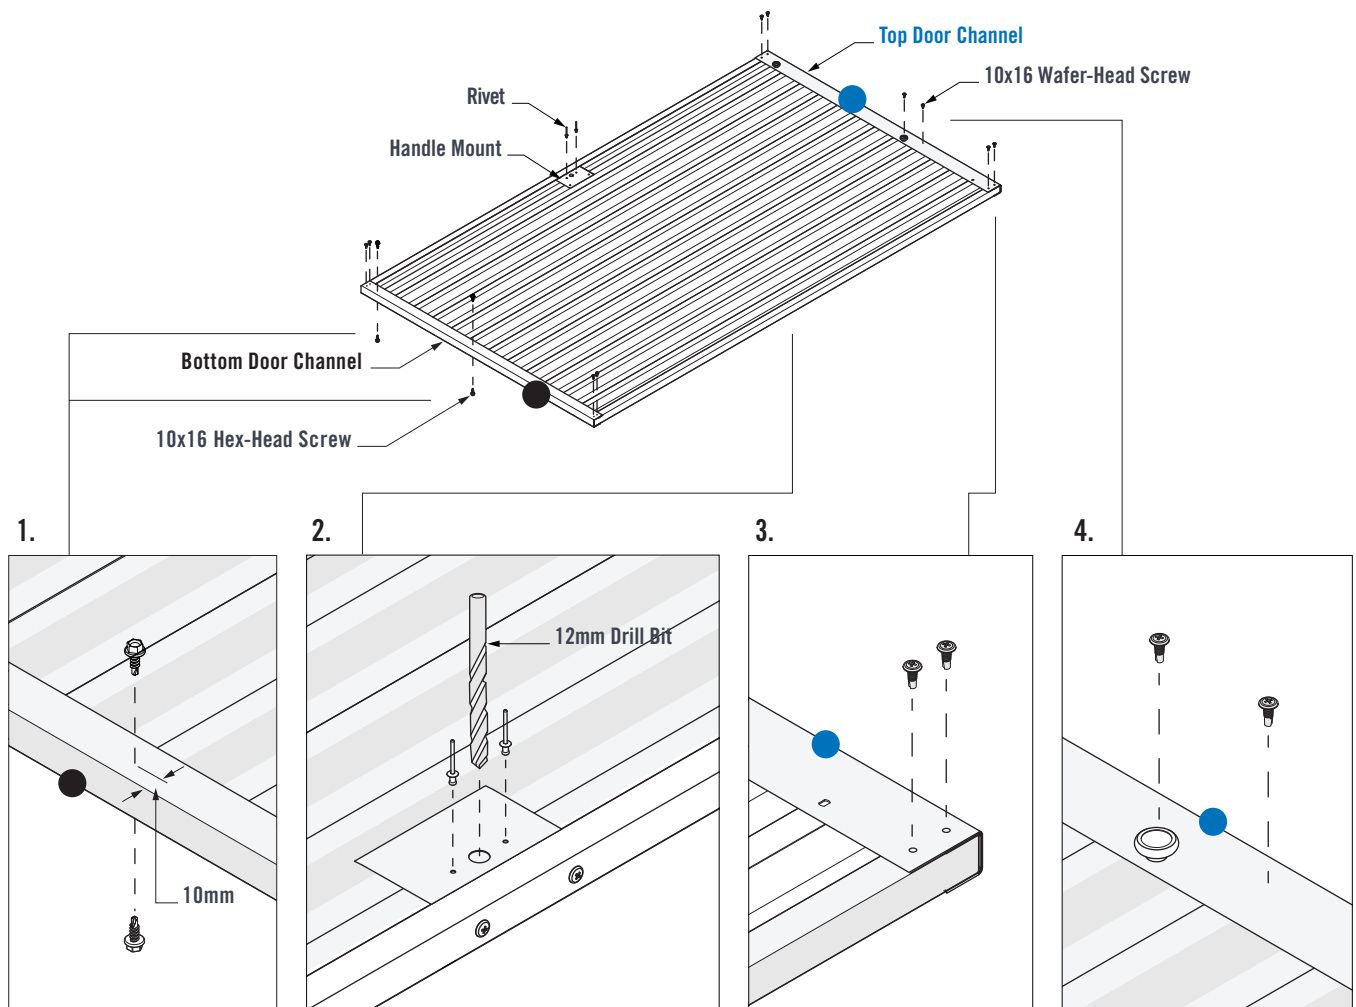

FIGURE 5.6
1. Fasten a 10x16 Hex-Head Screw into the mid-point of the Bottom Door Channel. Ensure the screw is fastened approximately 10mm from the bottom face of the Channel. Fasten a 10x16 Hex-Head Screw near the Handle Mount end of the Bottom Door Channel. Flip over the Door Assembly so that the underside is now facing up. Fasten two more 10x16 Hex-Head Screws in the same manner on the opposite side of the Bottom Door Channel (Figure 5.6).
2. Fasten two 10x16 Wafer-Head Screws through pilot holes in the Handle Mount and into the Door Sheet. Using the holes in the Handle Mounts as a guide, drill a  $\varnothing 3.5\text{mm}$  pilot hole, then  $\varnothing 12\text{mm}$  hole through the Wall Sheet (Figure 5.6).
3. Fasten two 10x16 Wafer-Head Screws through pilot holes in the Top and Bottom Door Channels and into the Vertical Door Channels at all four corners (Figure 5.6).
4. Fasten a 10x16 Wafer-Head Screw through the Top Door Channel and into the two Sheet Crests on both sides of the Door Wheel (Figure 5.6).